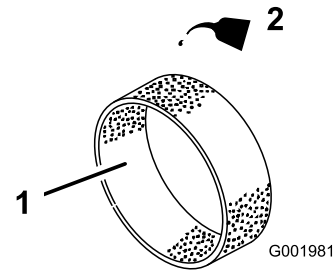

Figure 35
4. Put 30 to 59 ml (1 to 2 fl oz) of oil on the element (Figure 35).